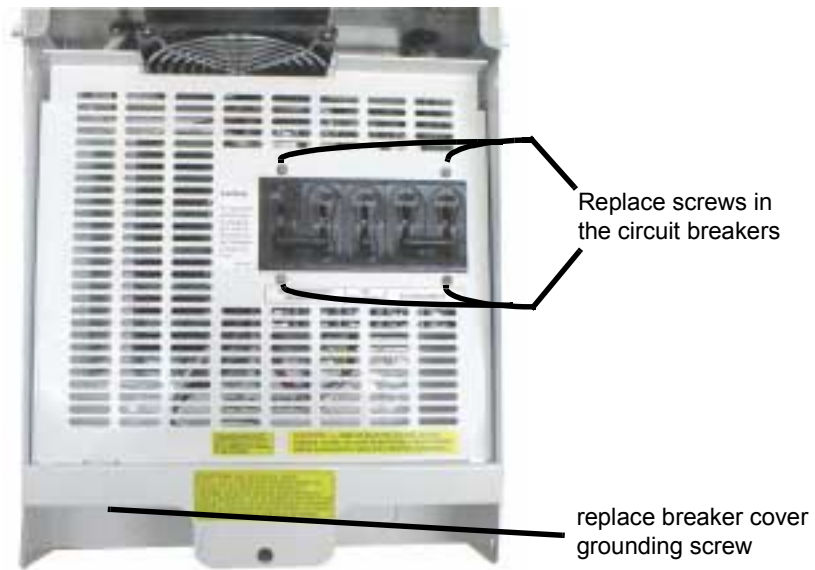

Figure 3-5 Circuit breaker cover and screws
1. Replace the circuit breaker panel, as shown in Figure 3-5.